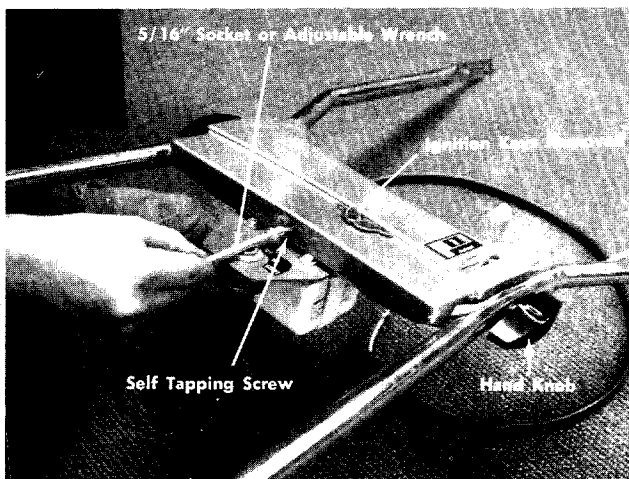

FIGURE 13. HANDLE PANEL ASSEMBLY
13. Remove the ignition keys from the ignition switch. See figure 13.
14. Secure top center of handle panel with hex head screw. See figure 13.